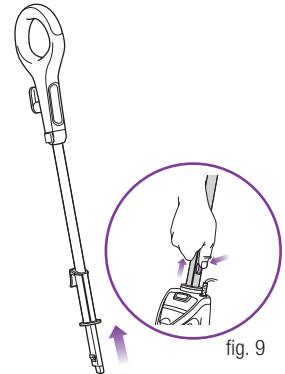

fig. 9
**1** To transition the Handheld Steamer, press and hold down the Handle Release Button while pulling out the Mop Handle (**fig. 9**).